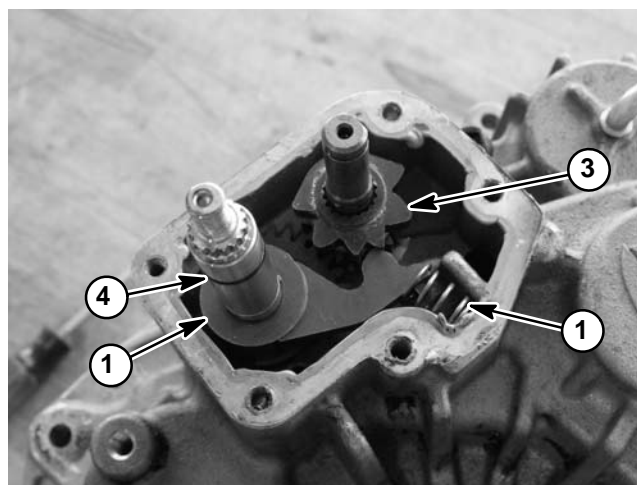

Figure 69
F. Apply a light coating of multi-purpose lithium grease onto new O-ring (Fig. 55 item 51) for shift shaft. Install lubricated O-ring into shaft groove (Fig. 69).